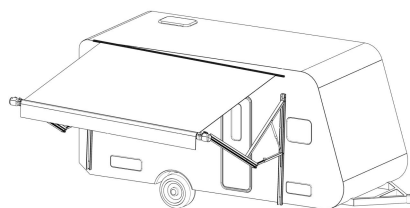
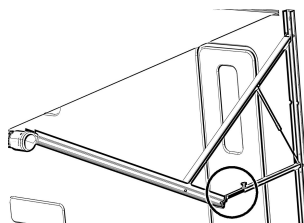

Figure D4
Figure D5
4.3 For long-time use of the awning, it is recommended to adjust the pressure on the adjustment rod of the folding arm to slightly incline the awning (Figure D4) To quickly drain accumulated water and prevent damage to the awning, we recommend that the awning be used only for sunshade and UV protection purposes. In the event of severe weather such as rain, snow, or strong winds, please retract the awning to prevent damage.(Figure D5)